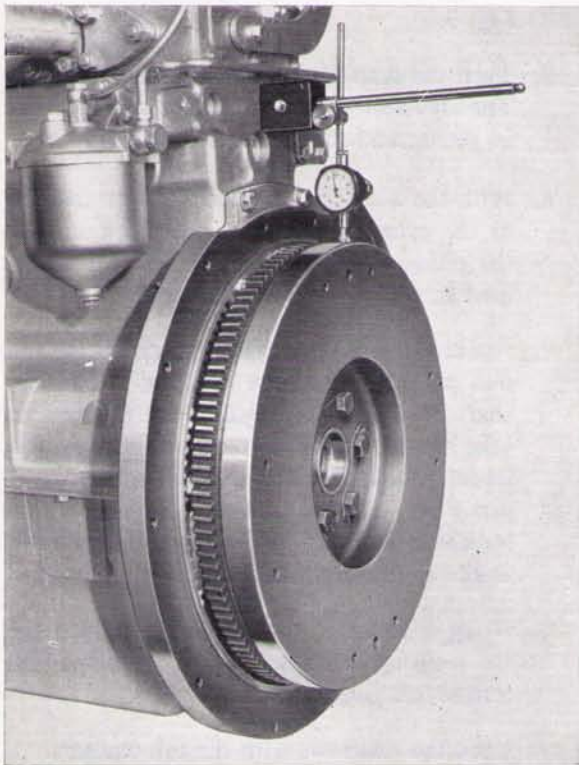

Fig. S.1.
4. It is most important that the flywheel run out be checked to ensure that it will not run out of balance, so before tightening the six setscrews, secure the base of a 'clock' gauge to the cylinder block. Then, with the flywheel at top centre, set the plunger of the 'clock' on the periphery at T.D.C. See Fig. S.1.